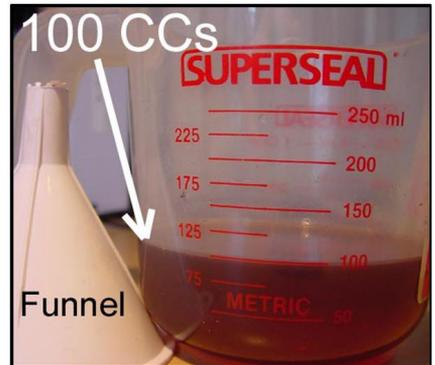

Fig. 22
- 5) Use a small funnel to pour in 100 cc's of SAE20W-50 oil into the rear drive. (See Fig 22)